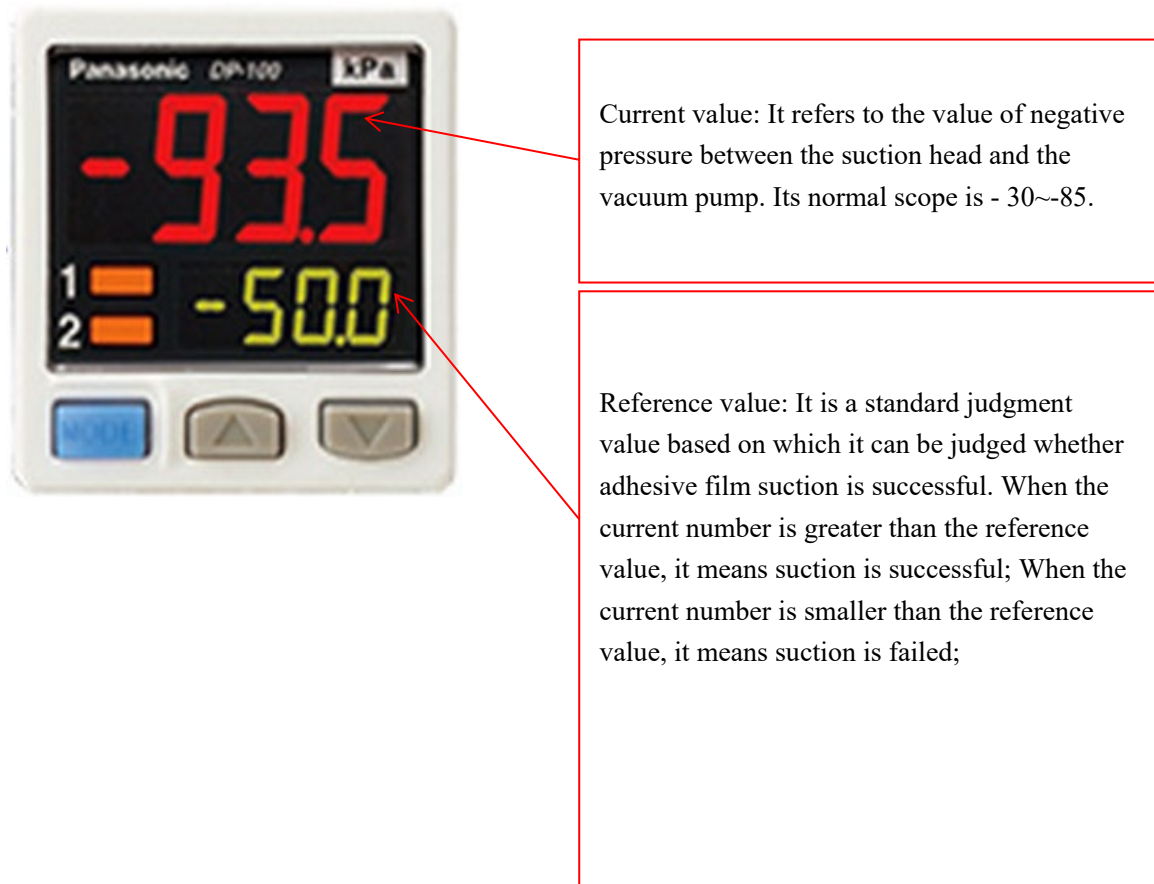

Figure 37
- C. Set the vacuum pressure sensor (negative pressure meter). As shown in Figure 37. The vacuum negative pressure meter is used for monitoring whether film suction is successful. When film suction is unsuccessful, the equipment will give an alarm reminding abnormal film suction.